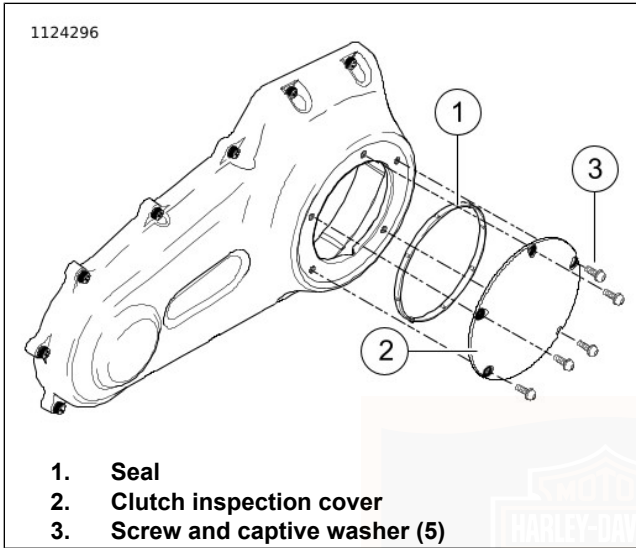
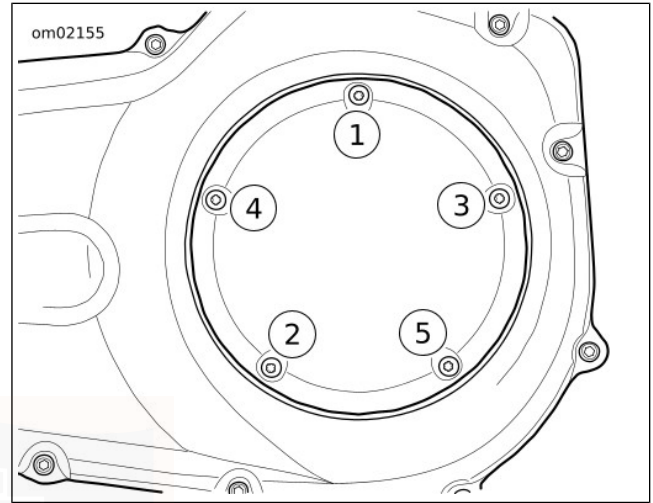

Figure 69. Clutch Cover (Typical)
Figure 70. Clutch Cover Tightening Sequence
6. See Figure 69. Remove screws (3) and clutch inspection cover (2).
7. Remove seal (1). Wipe oil from groove in chaincase cover and mounting surface.
- b. See Figure 69. Position **new** seal (1) in groove in clutch inspection cover (2). Press each of the nubs on seal into the groove.
- c. Secure clutch inspection cover (2) with screws with captive washers (3).
- d. See Figure 70. Tighten in sequence shown to 9.5–12.2 N·m (84–108 **in-lbs**).